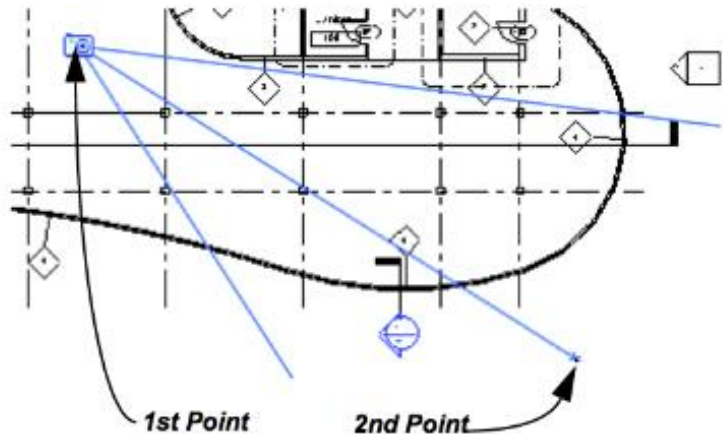

Figure 1–56
15. Click the first point near the Lobby room name and click the second point (target) outside the building, as shown in Figure 1–56.